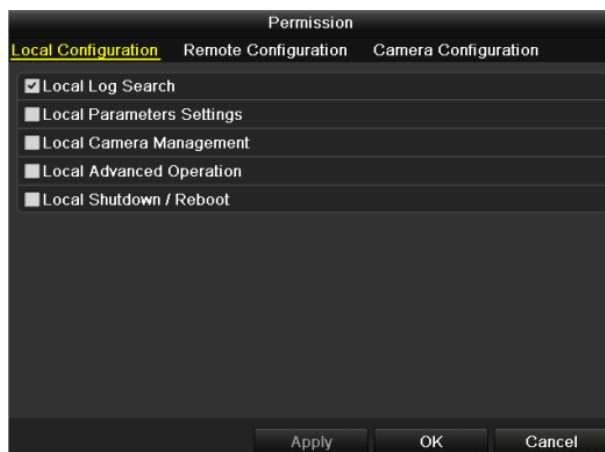

Figure 18-8 User Permission Settings Interface
Step 5 Select the user from the list and then click the button to enter the Permission settings interface, as shown in Figure 18-8.